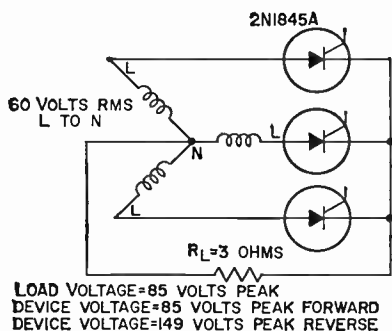

Figure 105. Three-phase half-wave circuit using resistive load, and respective equations for device current.
**Example No. 3:** In the three-phase half-wave circuit shown in Fig. 105, the firing angle is varied continuously from 30 to 155 degrees. In this case, it is necessary to determine the resultant variation in the attainable load power. Reference current for this circuit is determined as follows: